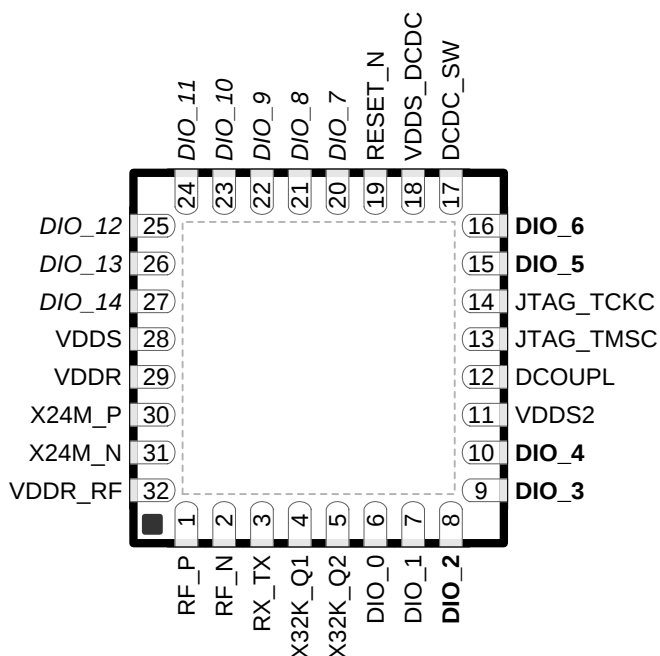

Figure 4-2. RHB (5-mm × 5-mm) Pinout, 0.5-mm Pitch
- Added 32KB and 64KB to the Features bullet for in-system programmable flash 1 - Changed to the correct pin count in the Features bullet RoHS-Compliant Package 1 - Changed CC1310 Block Diagram 3 - Changed Figure 4-2, corrected typo in pin name..... 9 - Changed the table note in Absolute Maximum Ratings from: VDD5 to: ground..... 14 - Changed ESD ratings for all pins in ESD Ratings 14 - Added OOK modulation power consumption to Section 5.4 15 - Added OOK modulation sensitivity to Section 5.6 16 - Added receive parameters for 431-MHz to 527-MHz band in Receive (RX) Parameters, 431 MHz to 527 MHz 17 - Added transmit parameters for 431-MHz to 527-MHz band in Transmit (TX) Parameters, 431 MHz to 527 MHz..... 19 - Changed ADC reference voltage to correct value in ADC Characteristics 21 - Added thermal characteristics for RHB and RSM packages 24 - Changed Figure 5-5 by extending the temperature..... 28 - Changed BOD restriction footnote in Table 6-2—restriction does not apply to die revision B and later..... 36 - Added Voltage Supply Domains 38 - Changed Device Nomenclature image 41
Figure 4-2 shows the RHB pinout diagram.
I/O pins marked in Figure 4-2 in **bold** have high-drive capabilities; they are as follows:
I/O pins marked in Figure 4-2 in *italics* have analog capabilities; they are as follows: